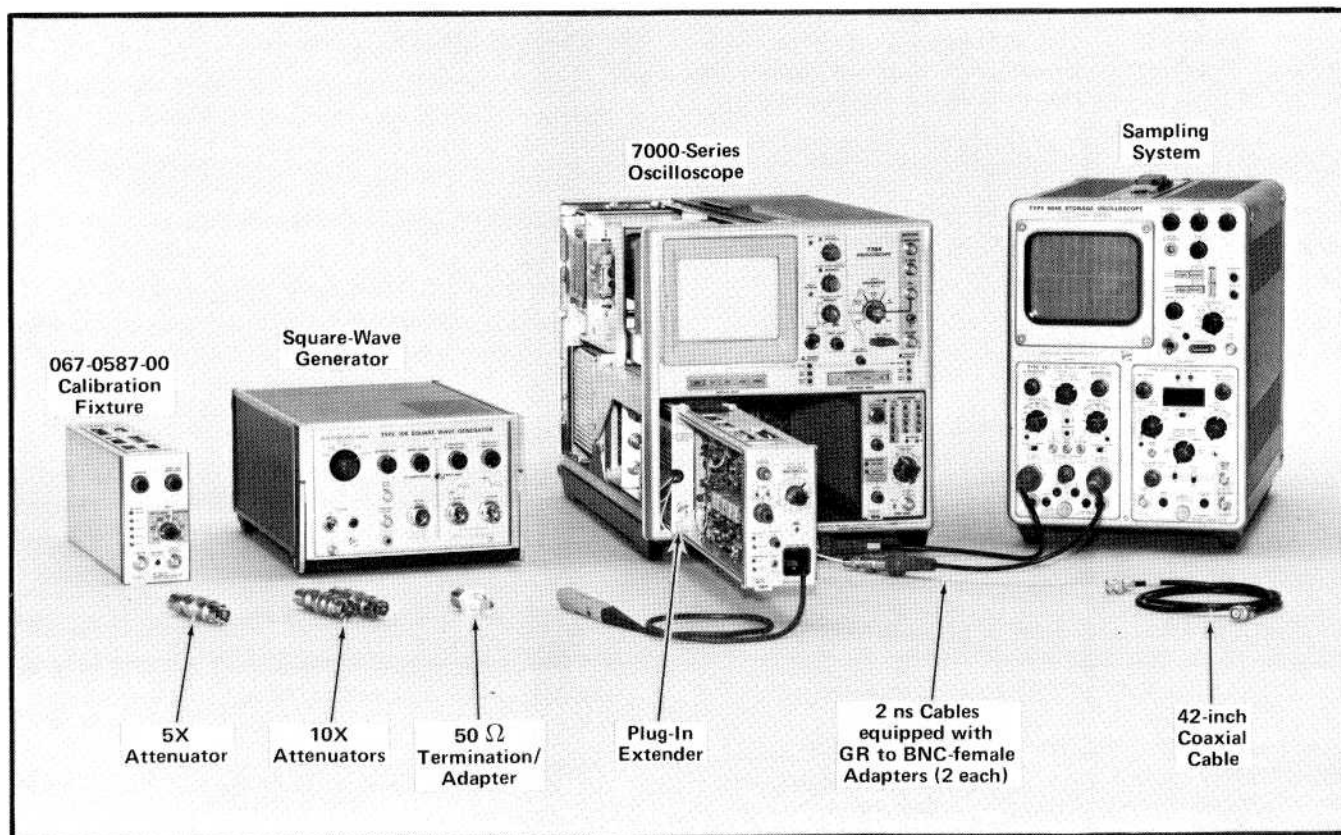

Fig. 5-10. Equipment for steps 12 through 20.
a. Control settings are given in Table 5-2. The equipment required for steps 12 through 20 appears in Fig. 5-10.